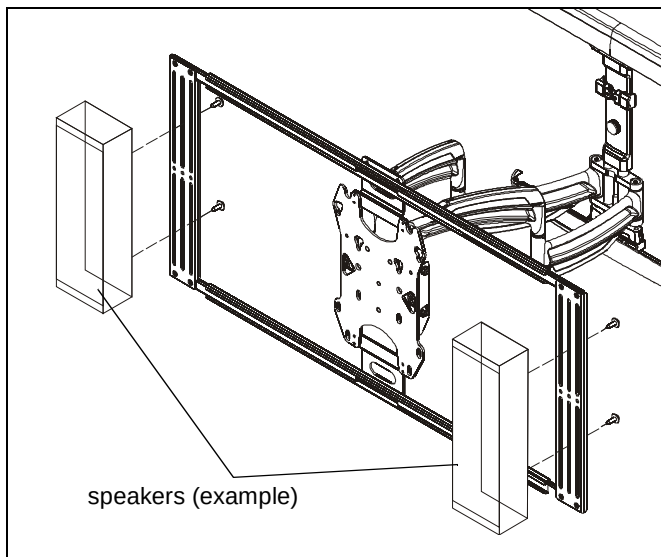

Figure 10
7. Attach speakers to speaker brackets (C) appropriate hardware (not provided). Adjust extension of horizontal brackets as needed. (See Figure 10)